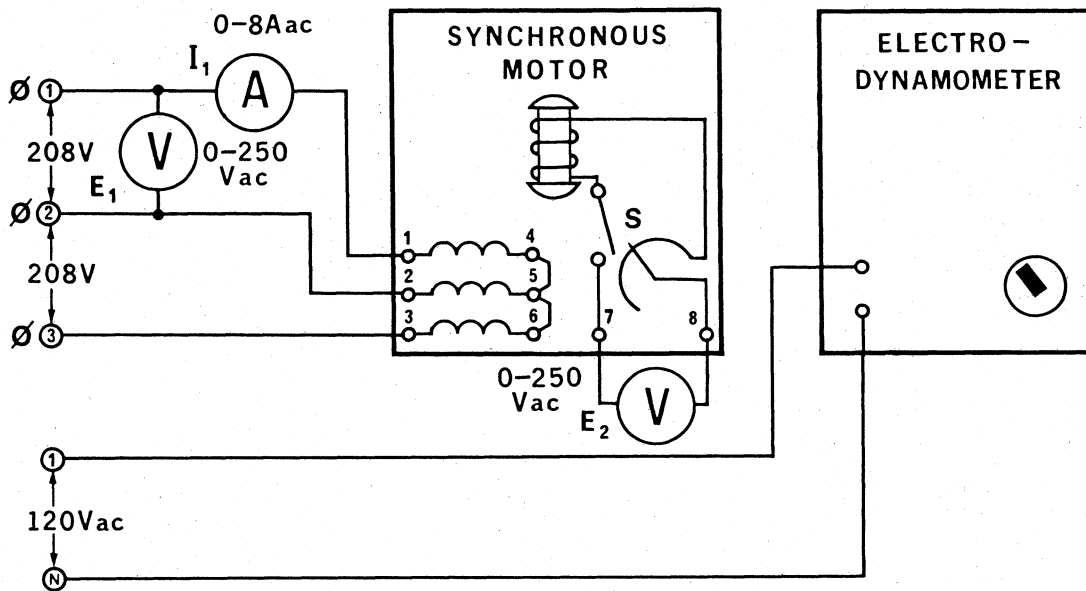

Figure 7-3.
10. a. Connect the circuit shown in Figure 7-3. Note that the synchronous motor is wired in its normal starting configuration (as a three-phase squirrel-cage induction motor).